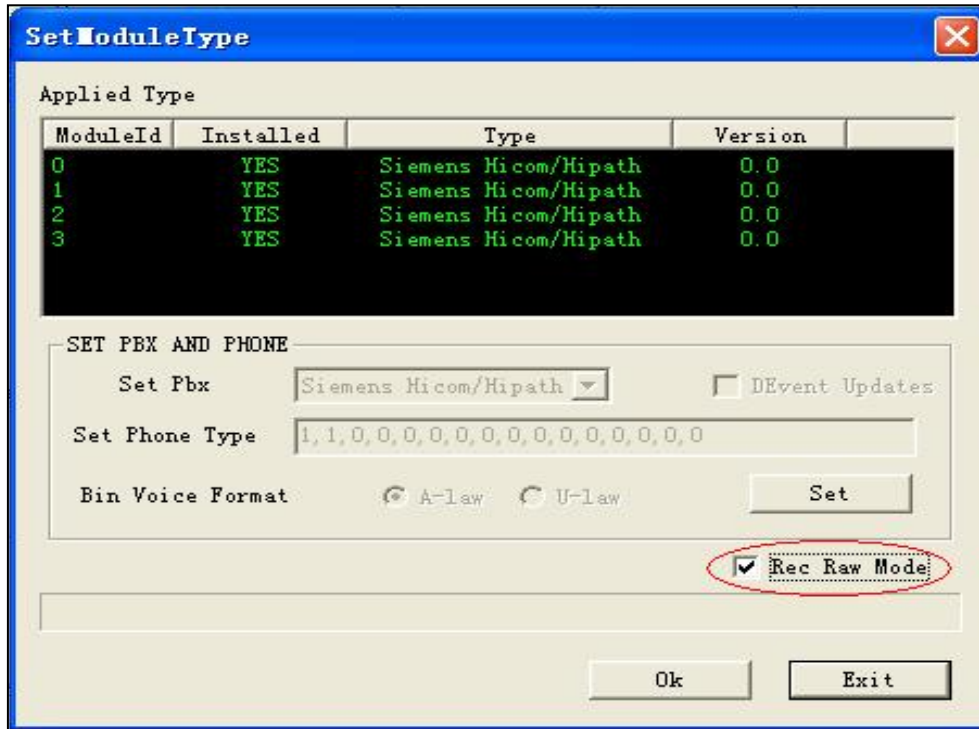
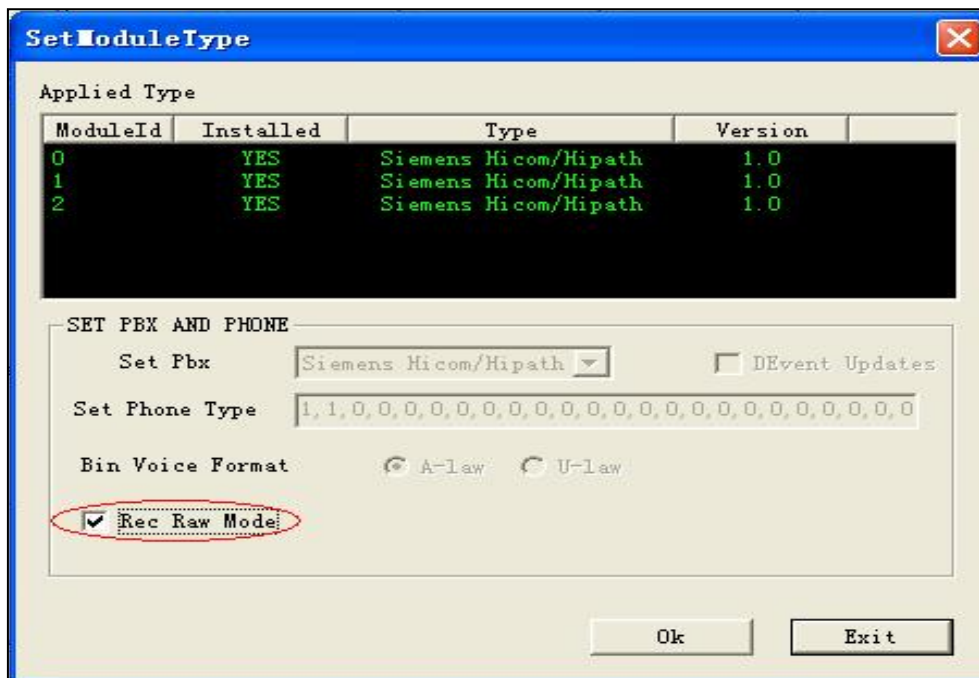

Figure 3-4 For A-type Boards
Figure 3-5 For B-type Boards
Step 4 : Tick the option 'Rec Raw Mode' in the dialog 'SetModuleType' and do not change any other configurations. Note that, to A-type boards, you still need to use the button 'set' for configuration. See Figure 3-4 and Figure 3-5 below.
Step 5 : Click the button 'Set' in Figure 3-4 above.